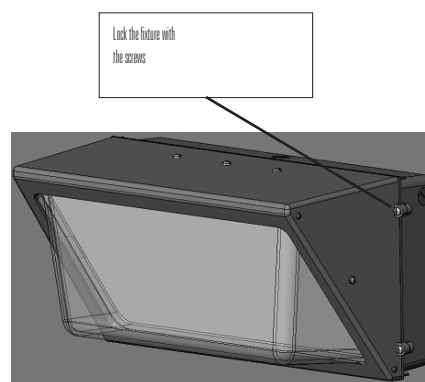

Figure 3
6. Close and lock the cover (Figure 3)